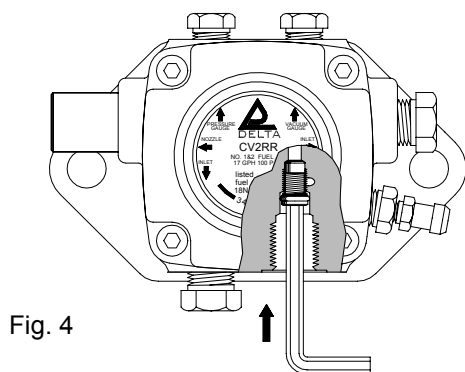

Fig. 4
- Insert the 5/32" by-pass plug in the return port of the pump (Fig. 4).